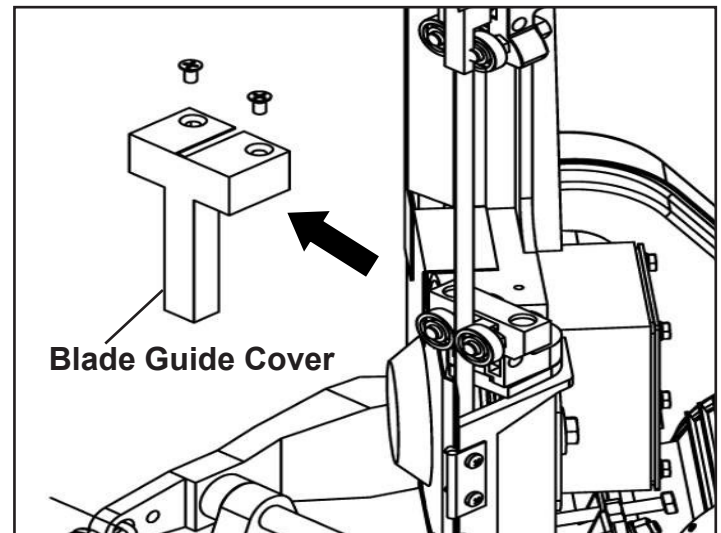

FIGURE 24
3. Remove the two flat head screws and the blade guide cover. SEE Figure 24.